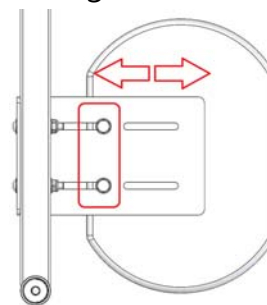

Figure 5-14
5.3.1.3.7 Use the #10 box end Wrench to make this adjustment. Loosen the screws then adjust the footrest to accommodate the user's leg position and flexibility (Figure 5-14). Re-tighten the screws.